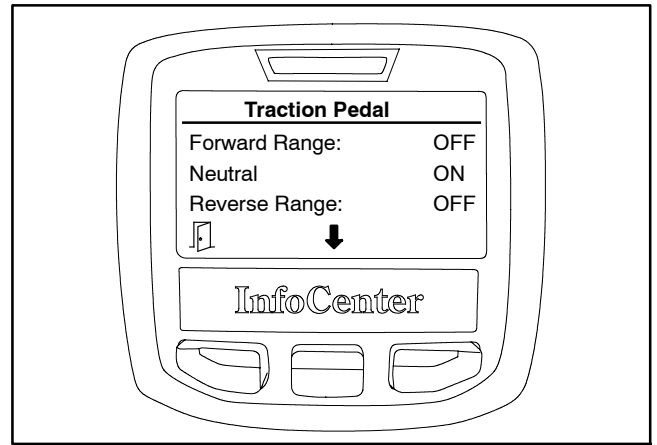

Figure 22
6. After any adjustment of the spring shaft and rod end bearing, use the InfoCenter Display Diagnostics menu (see InfoCenter Display in this chapter) to obtain and select the Traction Pedal menu item. Choose Outputs and the InfoCenter display will identify the traction pedal position (Fig. 22).